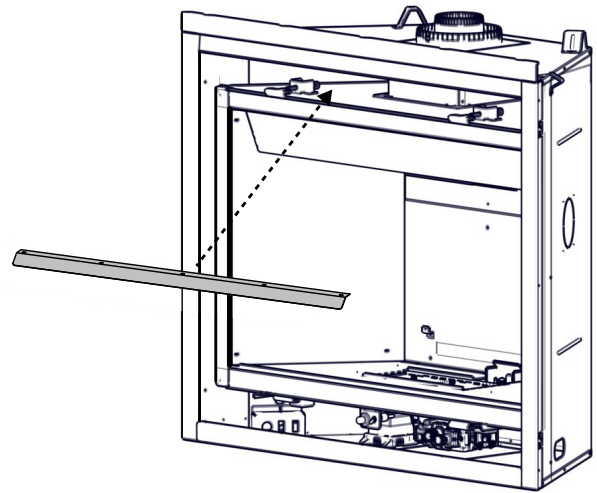

FIG. 2
- B. Install the front hood, ensuring it is angled downwards (FIG 2, 3).